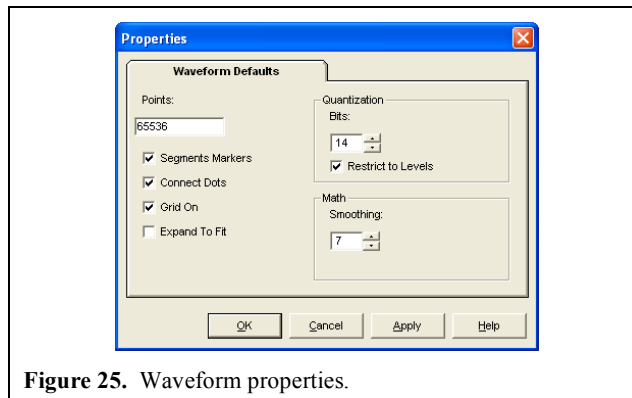

Figure 25. Waveform properties.
5. In the resulting window that appears (shown in Figure 25), set Points to either 65536 or 16384 and the Quantization Bits to 14. These settings allow optimum use of the 33220A's resources, although if necessary, other settings are valid.